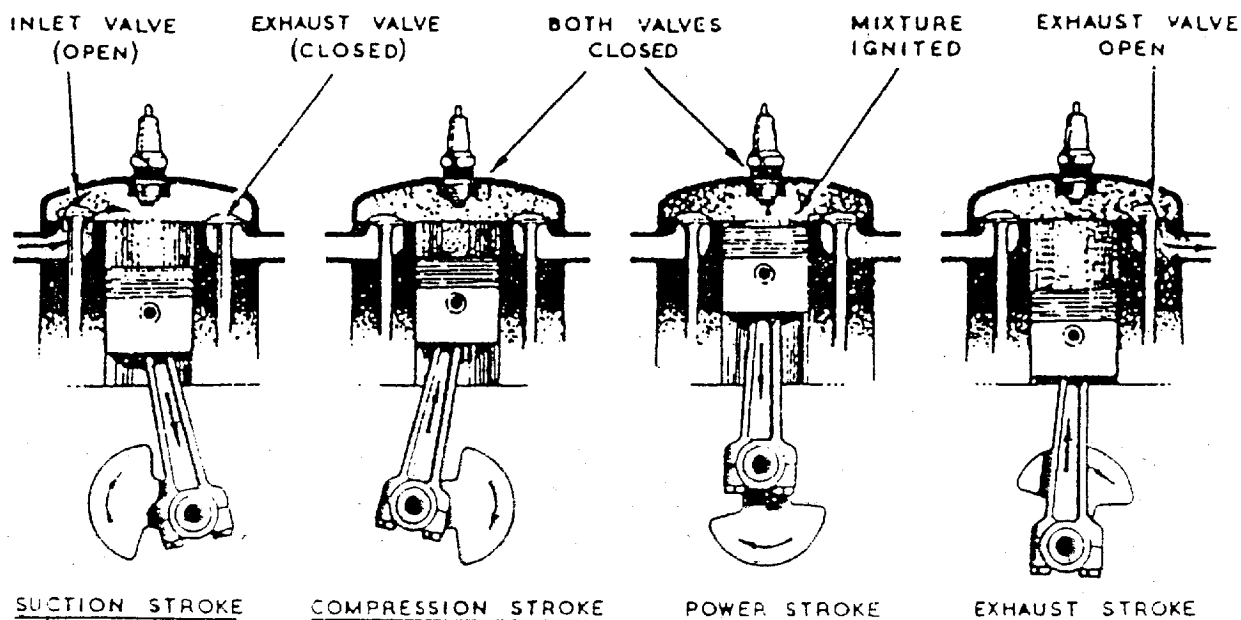

Fig. 2. The four stroke cycle.
1.2.1. Working Cycle. Fig.2. The engine works on the four stroke cycle which means that one complete cycle of events necessitates movement of the piston up and down the cylinder four times or two revolutions of the flywheel. The up and down movement of the piston and the connecting rod is converted to rotary motion by the crankshaft and it can be seen from Fig.2 that one complete revolution of the crankshaft represents two strokes of the piston.